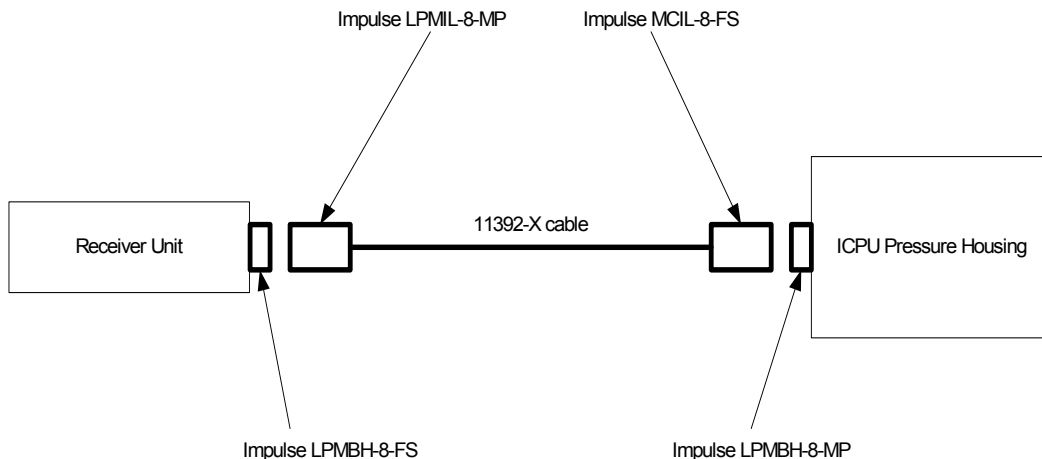

Figure 6 – Receiver Unit to ICPU Interface
The Receiver Unit(s) interfaces electrically to the ICPU through a single TBD long cable (Reson, Inc. Dwg. No. 11392-X, where X denotes cable length, as shown in Figure 6. A maximum of two (2) Receiver Units can be accommodated, with a separate cable and connector required for each. At the Receiver Unit end of the cable, there is a male 8-pin connector (Model LPMIL-8-MP). At the end of the cable that interfaces with the Pressure Vessel housing the ICPU, there is a female connector (Model MCIL-8-FS). The maximum allowable length for this cable is 3 meters.